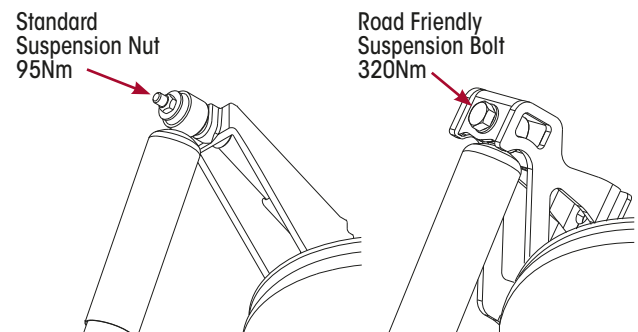

Figure 15: Upper Shock Absorber Fastener
3. Tighten the upper shock absorber mount to the specified torque. Vehicles with a standard Suspension mounting locknut must be torqued to 95 Nm. Vehicles with a Road Friendly suspension upper mount bolt must be torqued to 320 Nm. Refer Figure 15 and "Torque Specifications" on page 28.